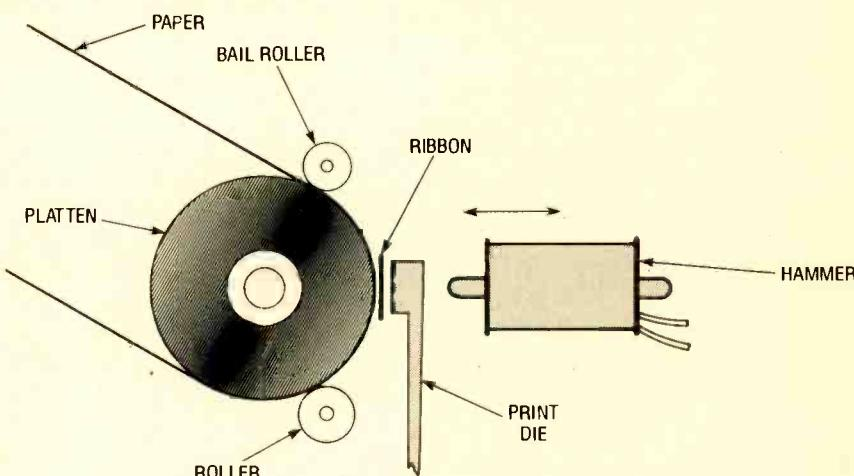

Fig. 2. This is a typical wheel-type print head assembly. The print die is a daisy-wheel type.
**Wheel Type.** Wheel printers, as the name implies, work in much the same way as conventional typewriters—characters are pre-molded onto a support structure to form what is called a die. When a character is to be printed, logic signals to a motor will move the desired character die into place. Then, a firing signal from the controlling logic will trigger a solenoid (or hammer) that will push the die forward against an inked ribbon to form an impression on the paper (see Fig. 2). There are several different types of dies used by wheel printers, but the three most typical are the daisy wheel, the ball type, and the thimble wheel.